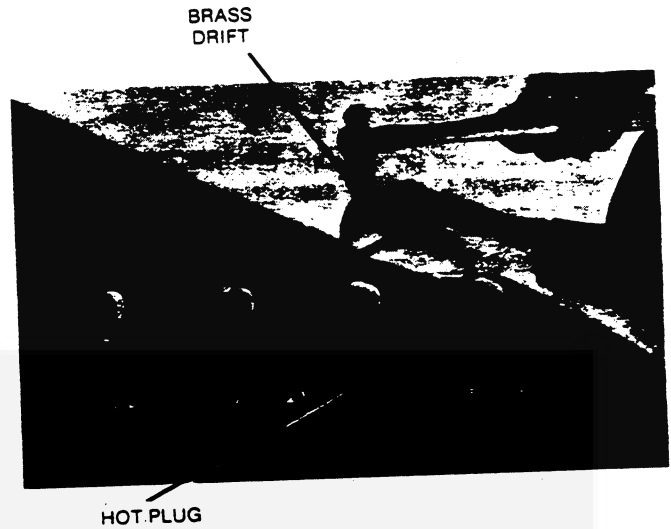

FIGURE 2. HOT PLUG REMOVAL
- A. Remove hot plugs and inspect. Remove hot plugs by placing a brass drift into injection nozzle bore and driving out the hot plug (Figure 2). Reface cylinder head on a milling machine.